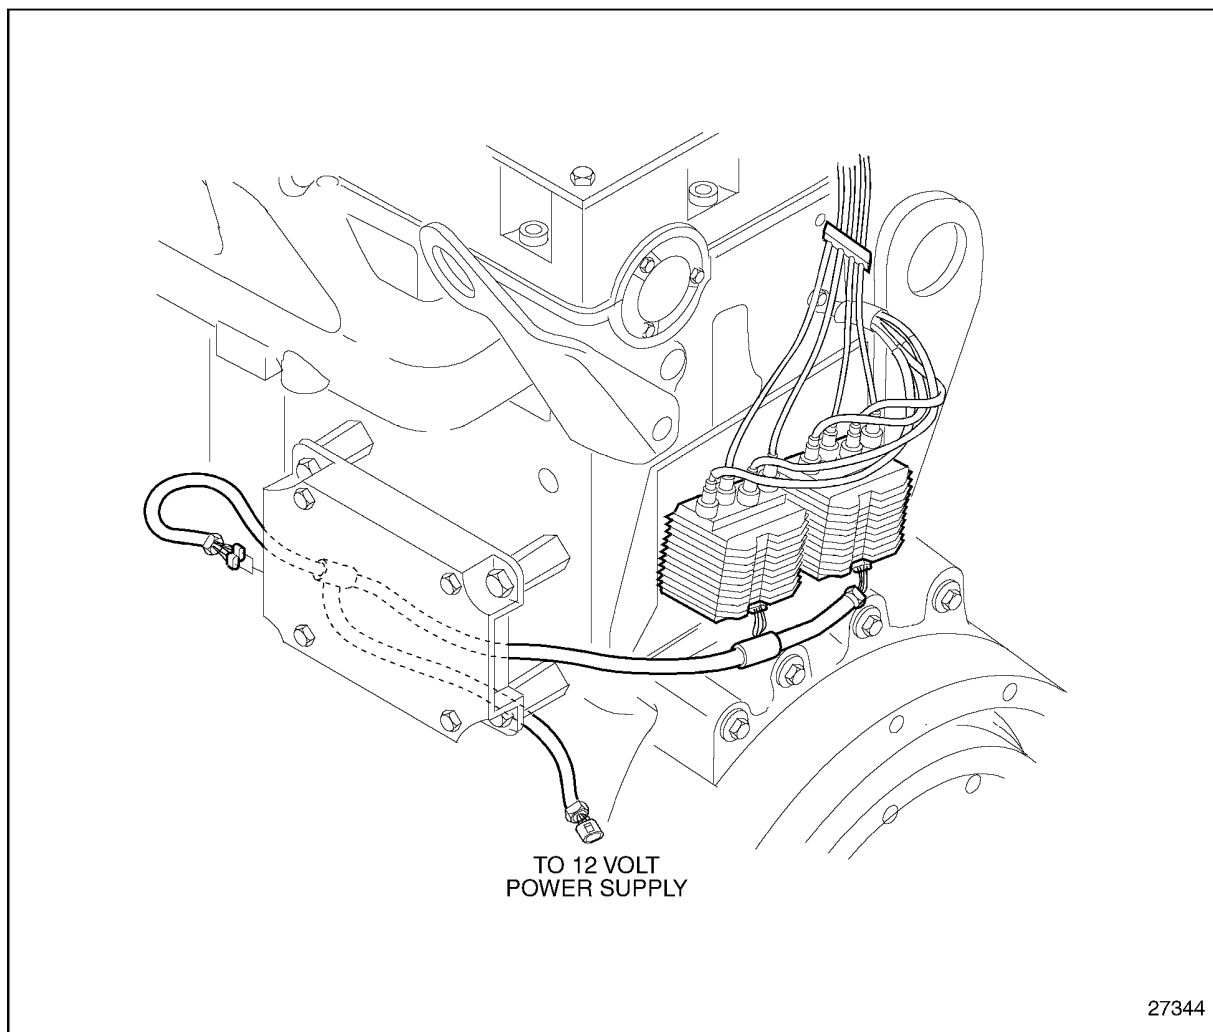

Figure 15-12 Ignition Coil Harness 12 Volt Supply
2. Connect the ignition coil harness to the 12 volt power supply. See Figure 15-12.